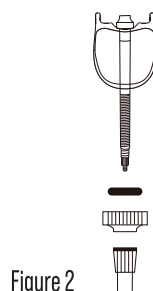

Figure 2
Follow Figures 2 and 3:
Insert the valve into the designated hole (Figure 2).
Step 2: Shake the sealant bottle thoroughly to disperse the particles evenly in the liquid. (Fig. 2)